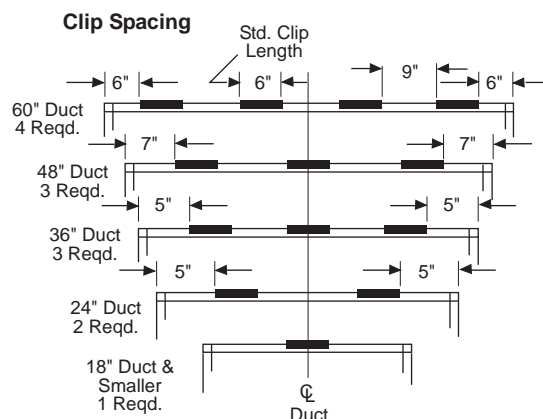

Fig. 7 – Two Angle (Two Sided) Method
a. Two Angle (Two Sided) Method: This method is the oldest and most commonly used. This method is approved for use in UL approved concrete/masonry partitions, steel stud/gypsum walls, and wood stud/gypsum walls. In this method 2 sets of angles are used to secure the damper in the opening, one on each side of the partition (See Fig. 7). Two Angle Method is approved for 1½ and 3 hour dampers, vertical or horizontal orientation, and any maximum size multi-section UL approved damper (see Underwriter's Laboratories Listings for maximum assembly sizes). Angles shall be a minimum of 1½" x 1½" (37mmx37mm) x 16 gauge. Angles are to be fastened to the sleeve on 6" centers with #10 (M5) sheet metal screws, 3/16" (5mm) steel pop rivets, ½" (13mm) tack welds, or ¼" (6mm) diameter nut and bolts with not more than 2" (51mm) from each end with a minimum of two connections per side/leg. The angles are to overlap the partition a minimum of 1" (25mm). These angles may be of a unit type construction and may or may not be fastened to each other at the corners. When the duct work terminates at the damper or installation prohibits angles from turning out/away from the wall, the retaining angle shall be reversed (leg turned into the opening) providing the size of the opening is increased by an amount equal to twice the combined thickness of the angle and the height of the screw or bolt head to maintain expansion clearances. See note 1A for information on clearances. See Fig. 7 for detailed drawings of installations.